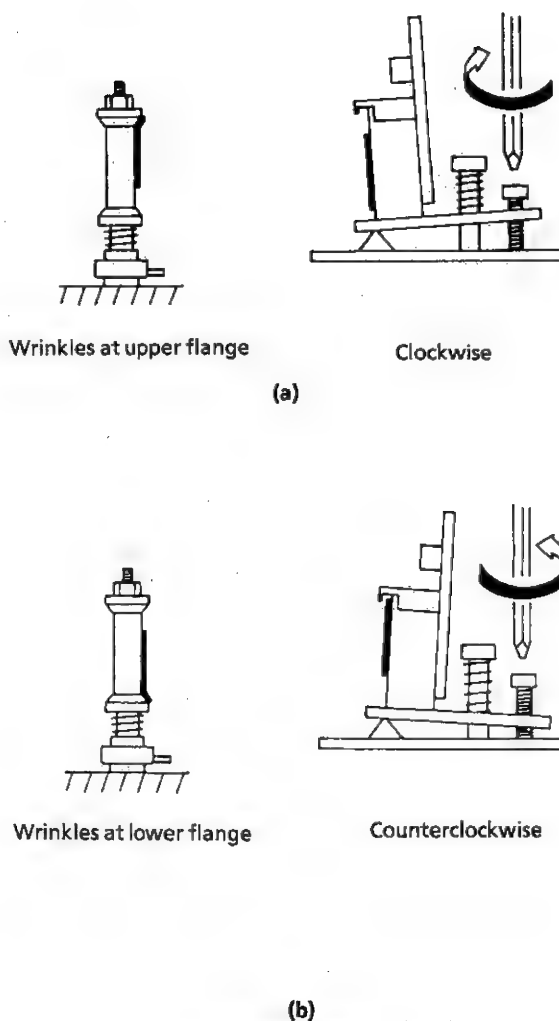

Figure 1-54.
- 1) Wrinkles at the upper flange : Turn the above adjusting screw clockwise, as shown in Figure 1-54(a).
- 2) Wrinkles at the lower flange : Turn the above adjusting screw counterclockwise, as shown in Figure 1-54(b).